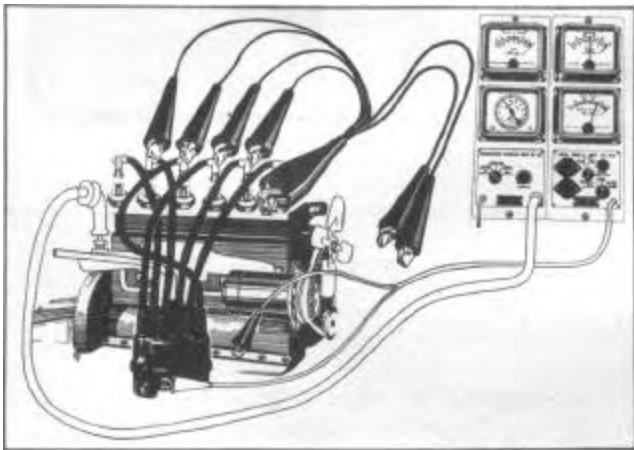

FIGURE 7
1. Connect the vacuum gauge and tachometer as shown in Figure 7, and set the throttle until engine is running at 1500 R.P.M.